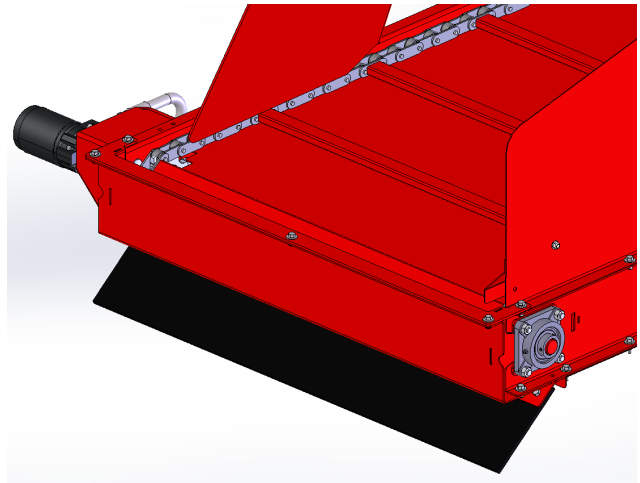

Figure 17: Install the RH end shield
13. If the discharge conveyor will be used exclusively for either left hand (LH) or right hand (RH) discharge, an end shield can be installed on the opposite end to reduce back flow and spillage.
- i. Place the assembled end shield onto the right end of the conveyor, as per Figure 17.